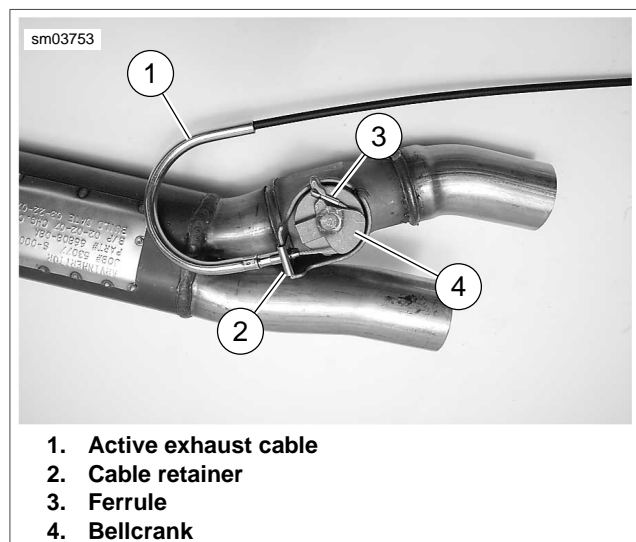
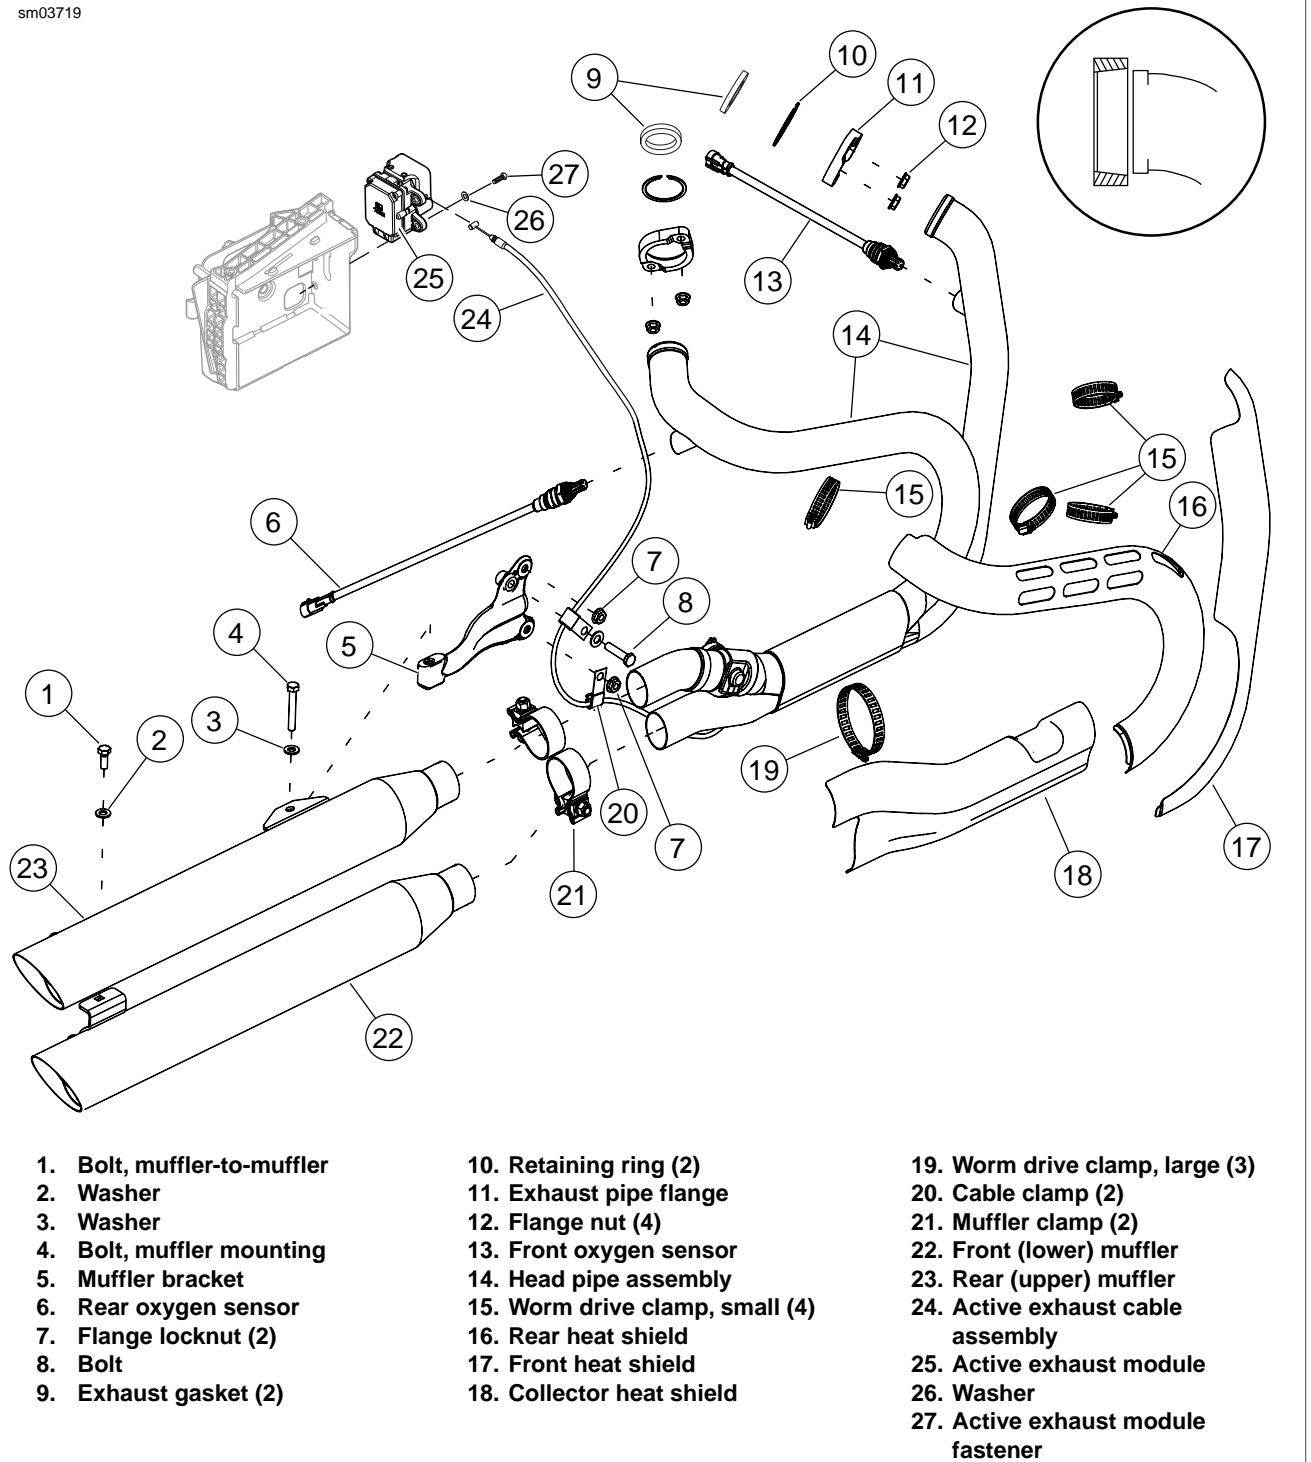

Figure 4-67. Bellcrank: FXDF
Figure 4-68. Exhaust System: FXDF
4. See Figure 4-67. On models with an active exhaust module, remove active exhaust cable (1):
- a. Remove cable and retainer (2) from exhaust pipe.
- b. Remove ferrule (3) from bellcrank (4).
5. See Figure 4-68. Remove bolt (1) and washer (2) attaching mufflers together.
6. Remove muffler support bracket bolt (4) and washer (3) attaching mufflers (22, 23) to rear exhaust bracket (5).
7. Loosen locknuts on muffler clamps (21). Remove mufflers.
9. Remove flange nuts (12) from front and rear cylinder head exhaust studs.
10. Remove head pipe assembly (14).
11. If necessary, remove flange locknuts (7) and bolt (8) to remove muffler bracket (5).
- See inset in Figure 4-68. Replacement exhaust gaskets (9) are tapered internally. Be sure the thin end goes over the exhaust pipe. Also check condition of retaining ring (10) before installation.
1. See Figure 4-68. If removed, install muffler bracket. Tighten flange locknuts (7) to 15-19 ft-lbs (20.3-25.8 Nm). Tighten bolt (8) to 15-19 ft-lbs (20.3-25.8 Nm).
2. Position ends of head pipe assembly (14) into front and rear cylinder head exhaust ports with holes in exhaust manifold flanges (11) over cylinder head exhaust studs. Loosely install flange nuts (12).
3. Slide muffler clamps (21) onto exhaust pipes.
10. Tighten muffler mounting bolt (43) to 15-19 ft-lbs (20.3-25.8 Nm). Tighten muffler attaching bolt (1) securely.
12. See Figure 4-67. On models with an active exhaust module, install active exhaust cable (1):
- a. Install ferrule (3) in bellcrank (4).
- c. Install cable and retainer (2) on exhaust pipe.